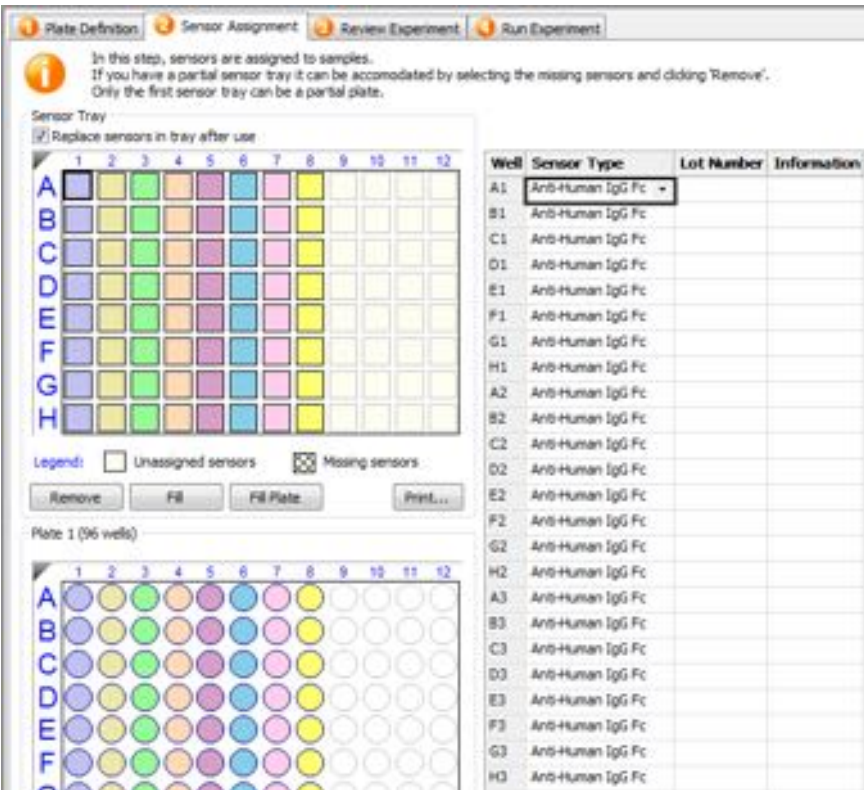

Figure 5-35: Changing Biosensor Types
- Select a cell in the **Sensor Type** table column, click the down arrow and select a biosensor type from the drop-down list (see Figure 5-35).